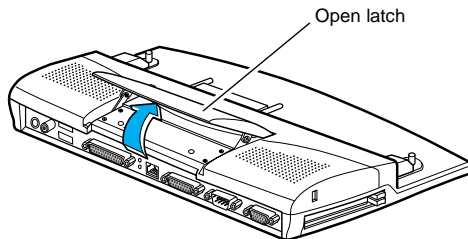

Figure 3. Connecting the Mini Dock
3. Pull the “open latch” on the Mini Dock. (Figure 3)